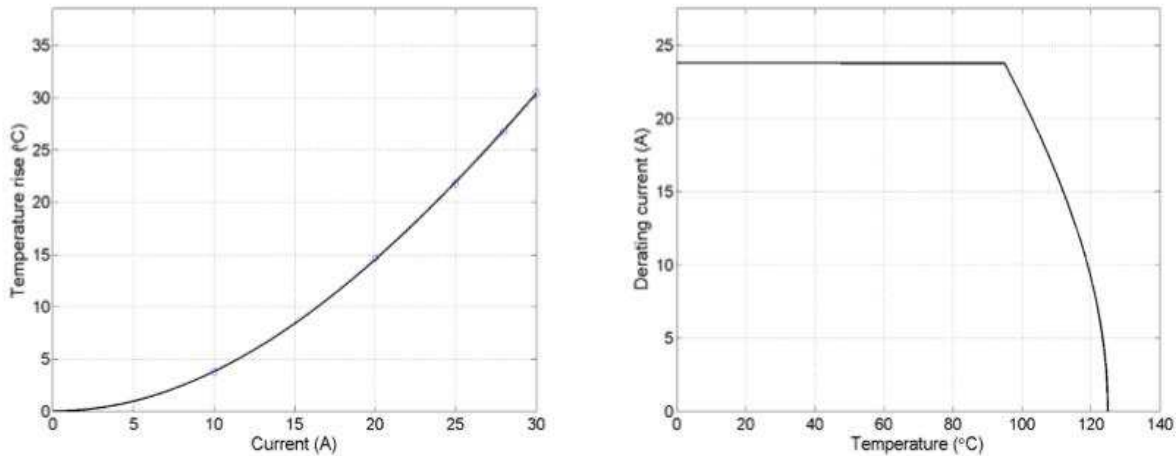

Figure 7- typical derating curve of 2238173-3 AWG12 #
2.7 Refer to figure 7 for the curve of 2238173-3 (Faston) with AWG12#.